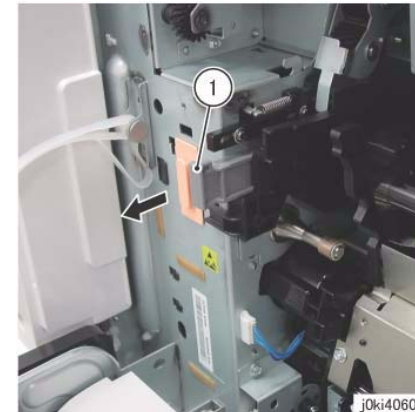

Figure 6 Pull the Stopper Lever
12. Pull the Stopper Lever. (Figure 6)